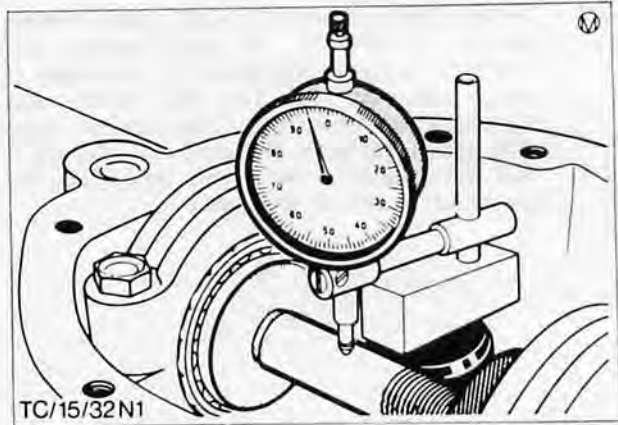

Fig. 75. Dial indicator reading 95 – shim under master pinion too thick
23. Place mounting block with dial indicator on the centre of the end of the master pinion and move the plunger slowly across the gauge bar. Observe dial indicator and stop at the precise point where the pointer changes direction. Repeat this operation several times and ensure maximum precision, Figs. 75/76.